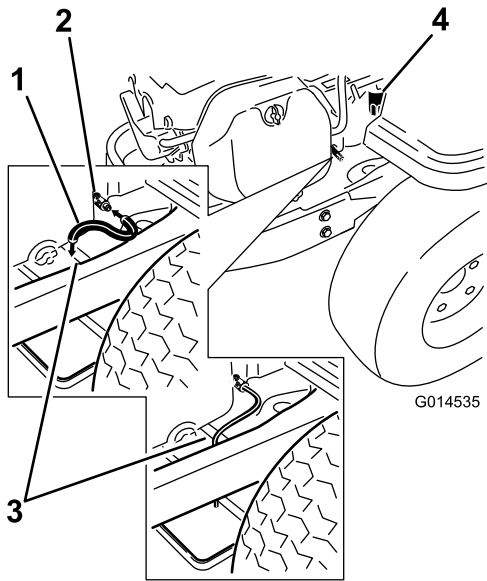

Figure 30
- Clean the area around the drain valve and on the machine frame. Locate the oil drain hose and slide it over the drain valve (Figure 30).
- Place the opposite end of the oil drain hose over the end of the frame (Figure 30).